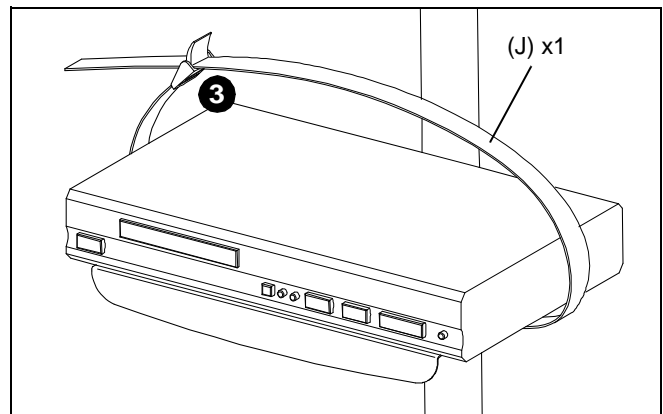

Figure 6
3. Loop strap (J) over top of equipment and slide strap end into clasp. (See Figure 6)